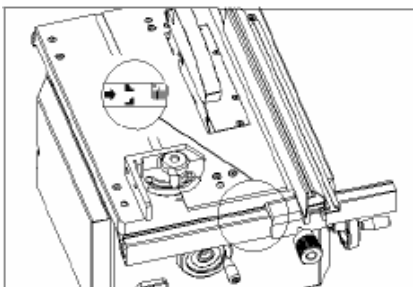

Fig. 8
- If this does not rest exactly on the saw blade, loosen the Allen screw (Allen screw) Figure 8 easily and adjust the rip fence to the saw blade.